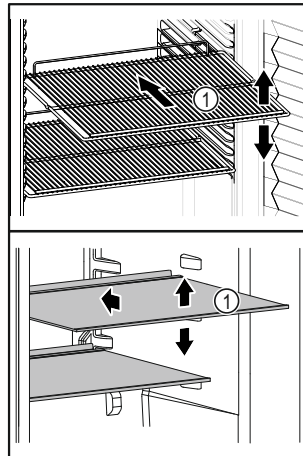

Fig. 62 Example illustration
- If storage surfaces Fig. 62 (1) are movable, adjust them according to height.